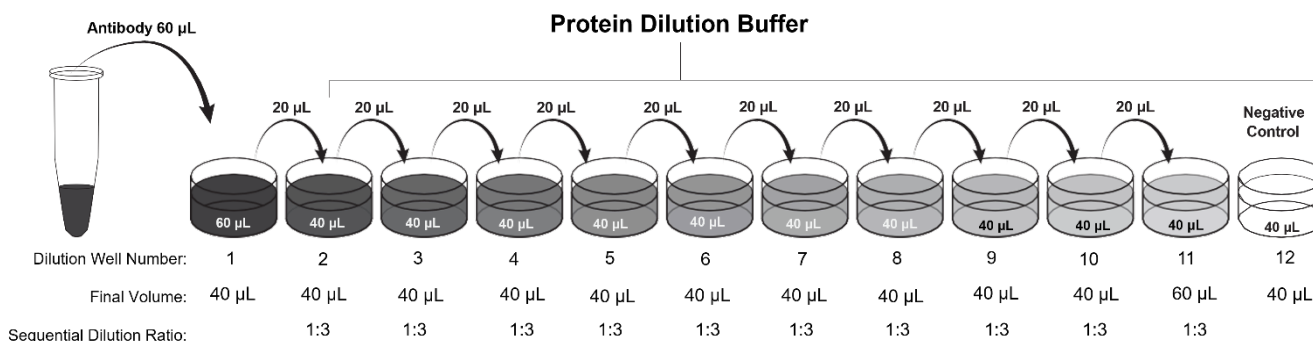

Figure 10. Compound serial dilutions – Anti-Ligand Antibody
1. Prepare a 11-point series of 3-fold anti-ligand antibody serial dilutions in Protein Dilution Buffer (PDB) in a separate dilution plate or vials, following the workflow below (Figure 10).
- d. Add 60 μL of the highest concentration of antibody to well number 1 (Figure 10).